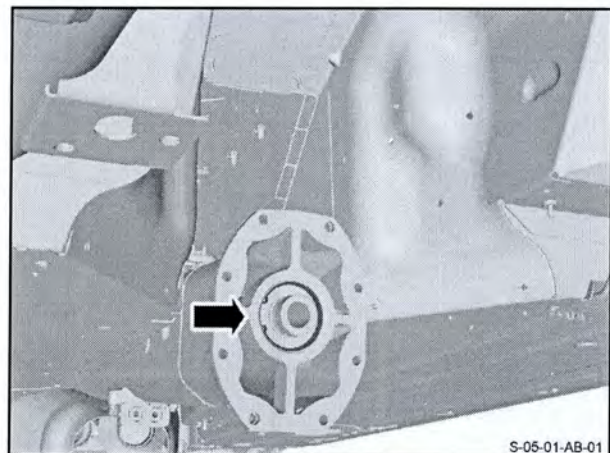

Figure 26
50. Remove the circlip that keeps the propeller shaft in the torque tube (refer Figure 26).